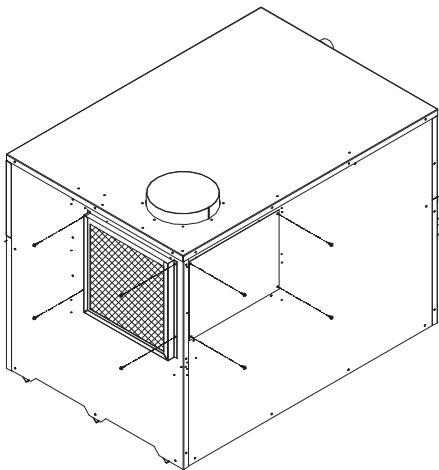

Figure 5 – Moving Air Filter/Bracket Assembly from Rear of Pool Heater to Side
3. Move the filter/bracket assembly from the rear of the pool heater to the side opening (see Figure 5).